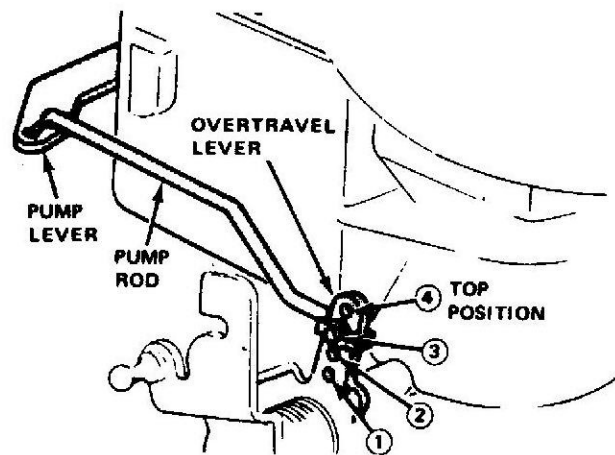

Fig. 2 Accelerator Pump Stroke Adjustment
(25) Move accelerator pump rod to number (4) hole in overtravel lever (fig. 2).
(26) Carefully scribe letter "J" on carburetor identification tag located on left front corner of carburetor to identify pump rod modification.